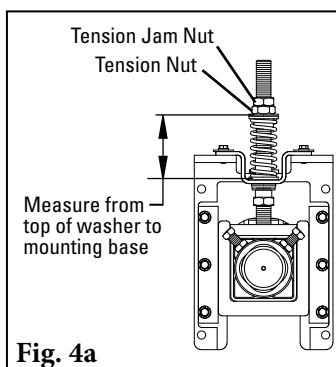
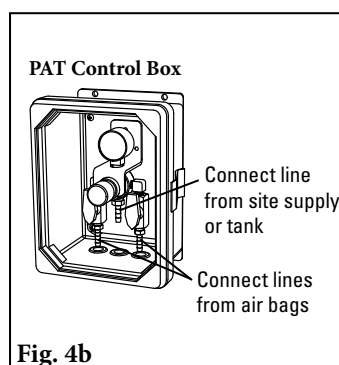

Fig. 4a
Fig. 4b
4a. **Spring Tensioner:** Loosen the top tension jam nuts on both sides. Turn the tension nuts until the correct spring compression is reached (Fig. 4a). Spring compression is determined by spring length. See the chart at right for the correct spring length for your belt width.
4b. **Air Tensioner:** With the parts supplied, attach a line to each air bag and run the lines to the outlet side of the control box (Fig. 4b). **NOTE:** Be sure lines are safely away from the belt. Connect the line from the inlet side of the box to the site's supply or air tank. Test the connections for leaks and set the pressure per the chart at right. Pressure may be reduced to suit application. See the chart at right for the correct air pressure for your belt width.
5. **Reassemble the SAT XD Tensioner.** Remove three screws from air bag support plate (Fig. 4a). Turn the threaded insert into the support plate. Also turn part of the threaded insert into the hole on pole mount. (Fig. 4b). Ensure 6mm of threaded insert is still exposed, then turn the air bag onto the threaded insert and tighten (Fig. 5).